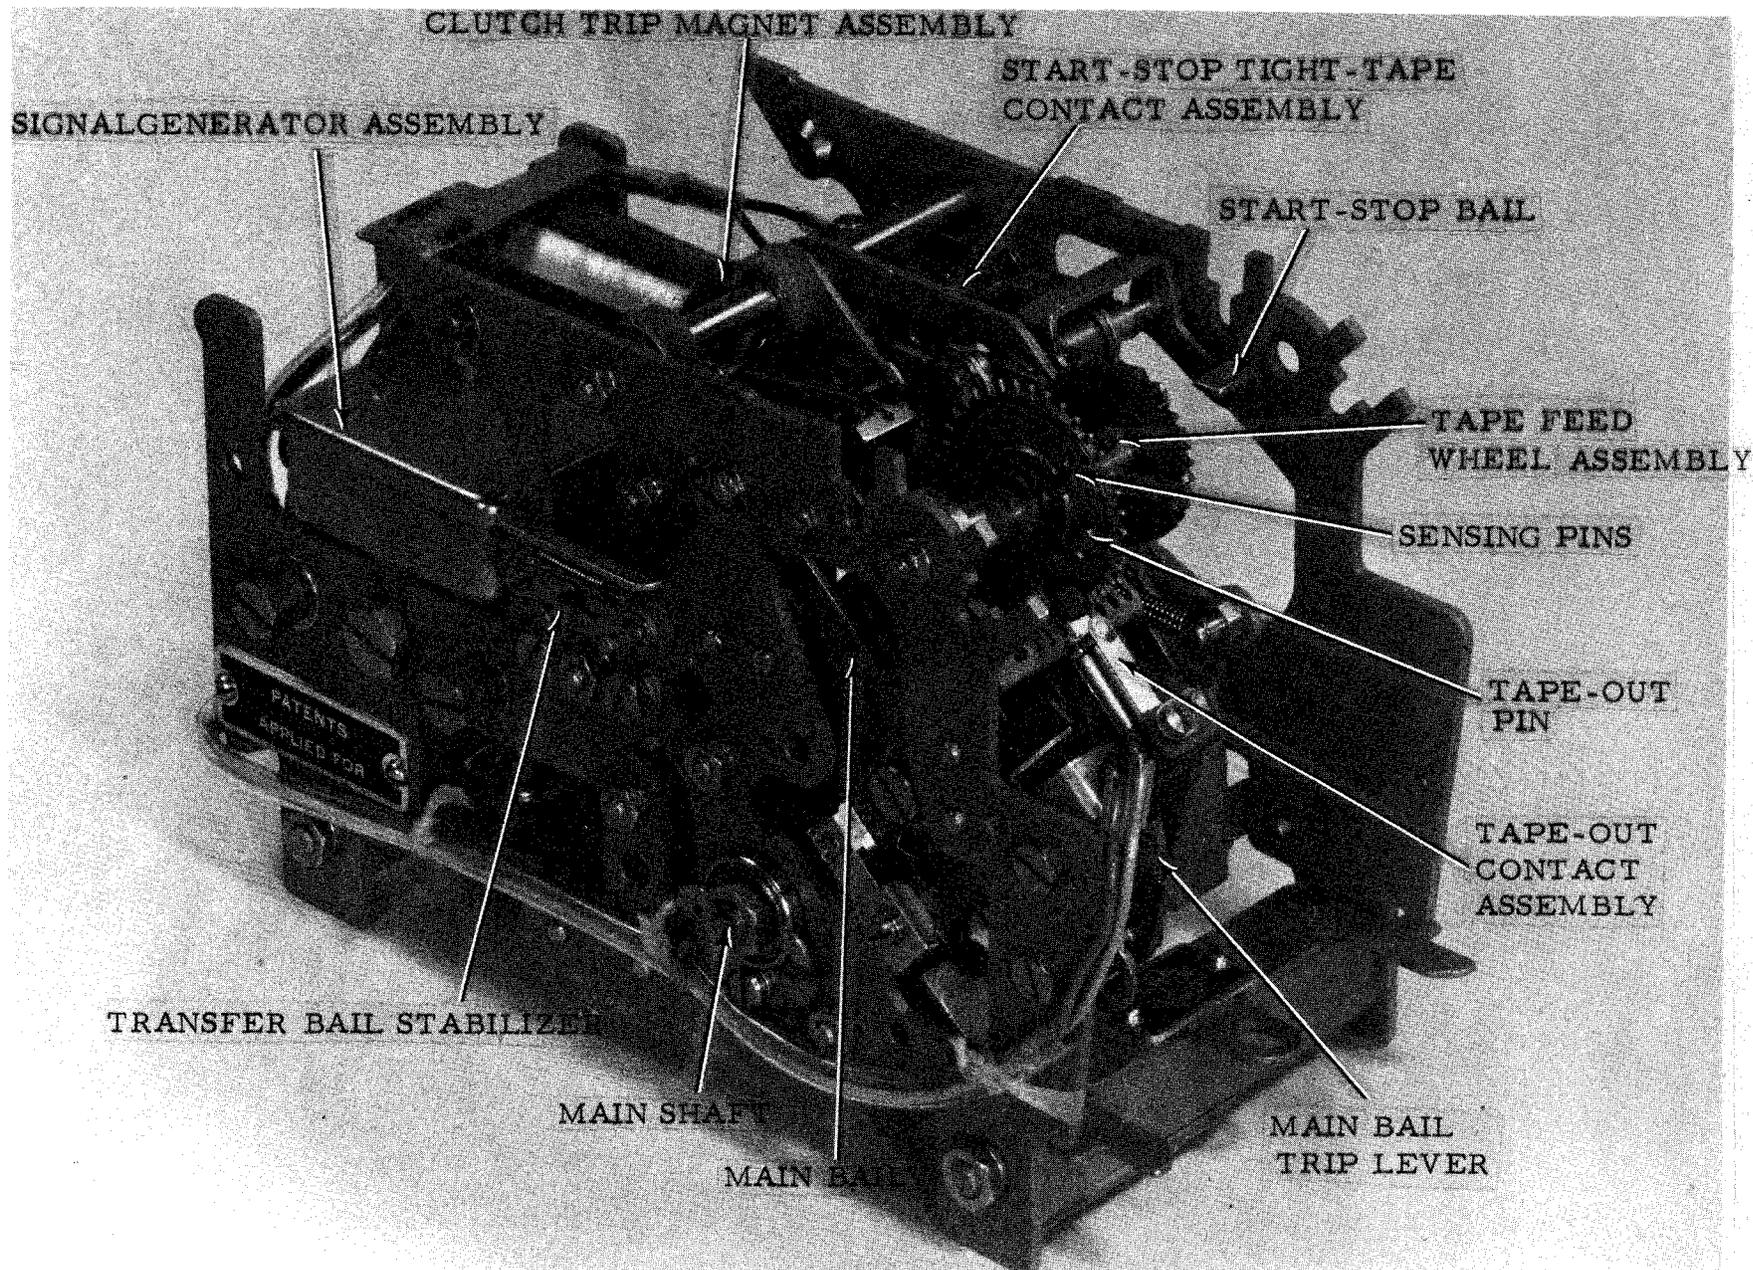
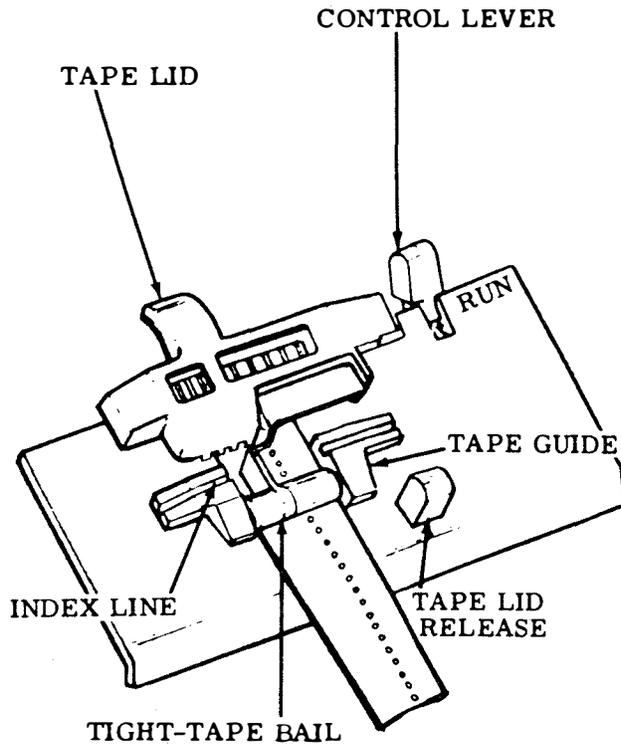
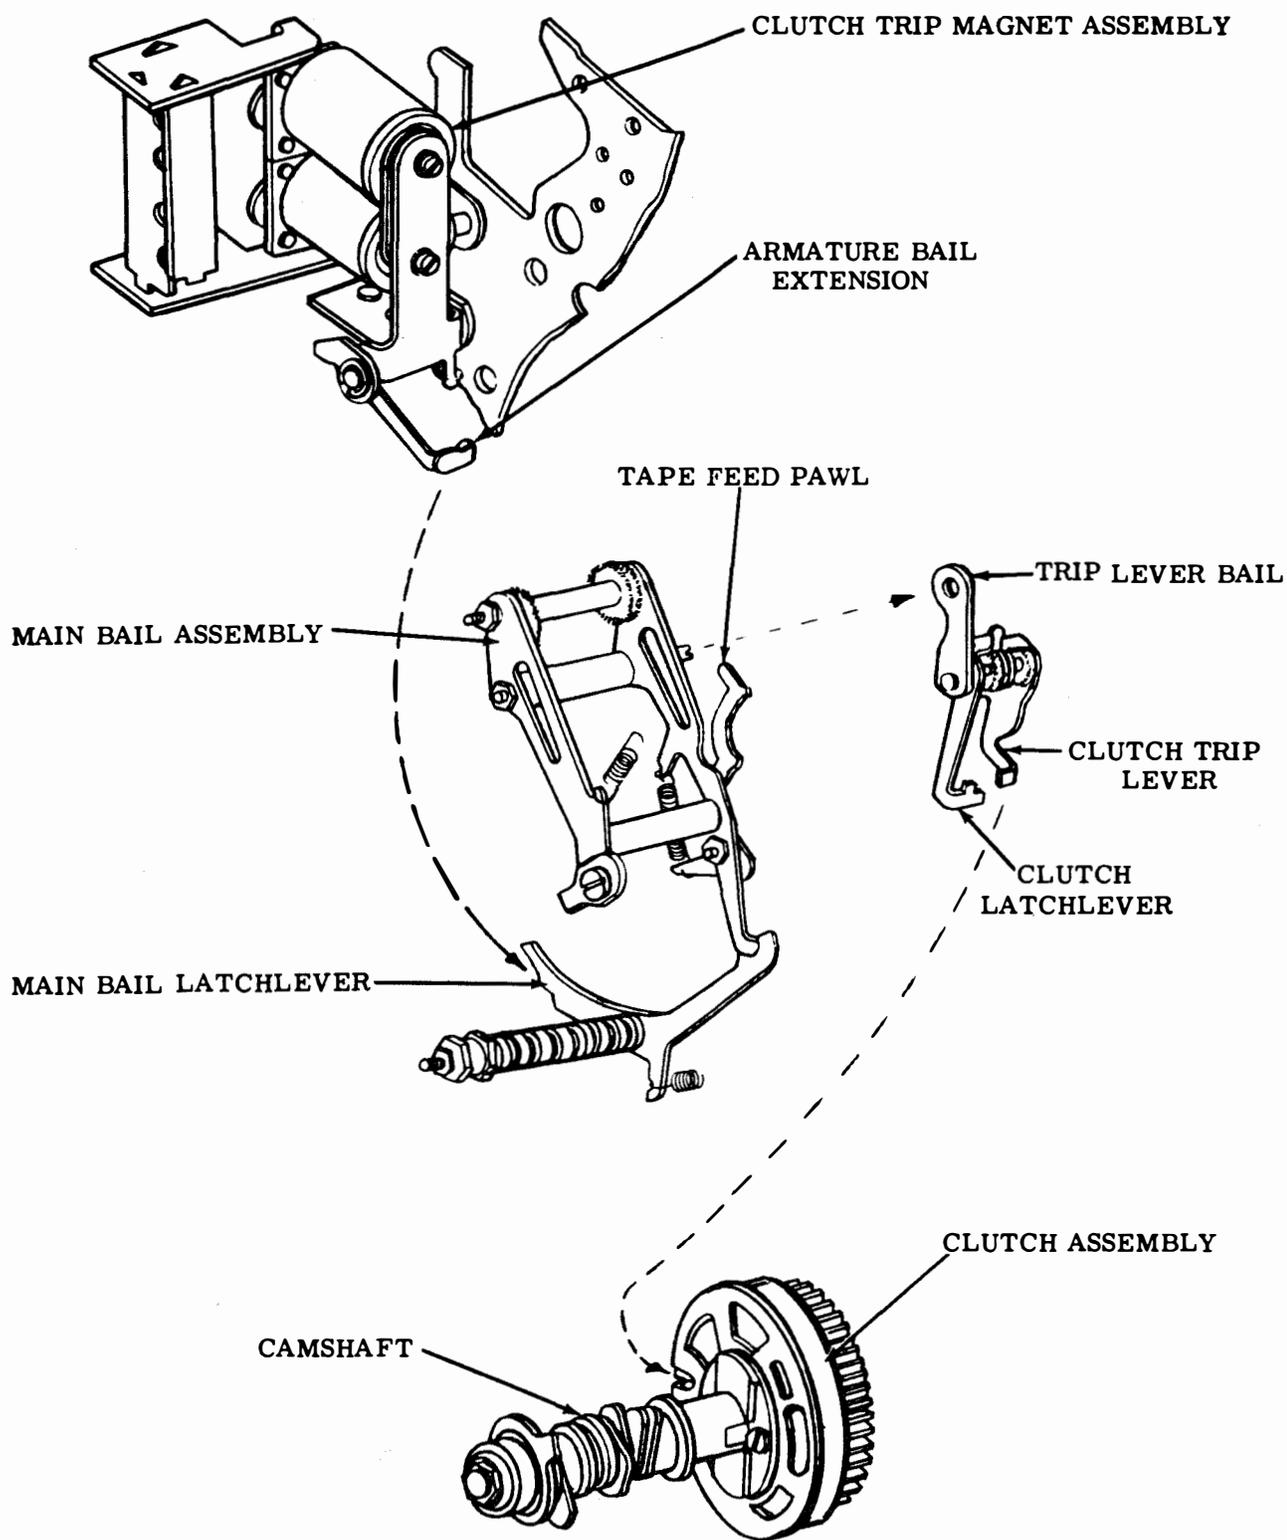

Figure 3-4. Transmitter Distributor Unit (Cover Plate, Top Plate and Tape Guideplate Removed)
Figure 3-6. Tape Guideplate
Figure 3-9. Function Control Mechanism
c. Functions. The basic operation of the TD is to mechanically sense perforated tape and transfer the information to the signal generator, which performs the actual signal transmission (figure 3-4).
(1) The TD can be thought of as having two basic functions. The transmitter (tape reader) senses or reads the punched code combinations in the tape and transfers this data mechanically to the distributor. The distributor (signal generator) converts the parallel signal from the transmitter into sequential, start-stop signals for distribution on line.
(2) The signal generator assembly includes a
(a) The tape sensing mechanism which consists of a bank of sensing pins, each with its corresponding transfer lever and latchlever (figures 3-4 and 3-5).
(b) The main shaft assembly, (figures 3-4 and 3-5) which is centrally located in the lower portion of the unit, has the outer race of each ball bearing clamped to the respective front and rear plates. The main shaft assembly consists of multiple cams,
(d) A tape-out pin (figure 3-4), located to the right of the sensing pins, stops transmission if there is no tape in the sensing head (figure 3-6).
(b) A pair of adjustable guides (figure 3-6) for aligning and locating 11/16- or 7/8-inch wide tape over the feedwheel. An index line is scored in the tape guides 0.600 inch (6 characters) ahead
(d) A spring-loaded tape lid (figure 3-6) that snaps open when the red tape lid release plunger is depressed.
unit, and the external portions of the transmitter distributor circuits complete. Moving the control lever (figures 3-6 and 3-8) to the RUN position, energizes the clutch trip magnet by completing the circuit through the start-stop and tight-tape contact assembly. Thus, the contact closes to complete the clutch trip magnet circuit, energizes the magnet, and pulls the armature up. The armature bail extension (figure 3-9) cams the main bail latchlever about its pivot post to release the main bail.
(1) The clutch trip bail is reset by an eccentric on the main bail. The eccentric rides in the slot of the clutch trip bail. When the eccentric on the spring biases main bail cams the clutch trip bail, the trip bail, in turn, moves the clutch trip lever (figure 3-9) away from its latch. When the main bail is released, the clutch trip bail is also released by the interconnection. The main bail swings up drawn by the main bail spring and causes two actions to occur.
(4) During the movement of the main bail, the clutch trip bail pivots on its axis and pushes the clutch trip lever away from the shoe release lever to engage the clutch and start the camshaft rotating (figure 3-9).
(5) As the camshaft continues its rotation, the high part of the locking bail cam moves away from the locking bail and permits the locking bail to be pulled up by its spring. In its upward travel, the locking blade of the bail is positioned
(1) Since the tape out contacts are in series with the start-stop and tight-tape contacts, the clutch trip magnet becomes de-energized and releases its armature. This action permits the armature extension to pivot out of its blocking position and allows the main bail latchlever to be moved by its spring (figure 3-9).
(2) As the main bail is latched, the clutch trip lever blocks the clutch shoe lever. When the clutch shoe lever is blocked the inertia of the mechanism causes the clutch to rotate far enough to permit the clutch latch to fall into the notch on the clutch cam disc.
its mechanism is mounted on a bracket attached to the front plate. The result of this camming action is the depressing of the tape-out sensing pin to a flush or below flush position relative to the tape guideplate. The position of the tape-out sensing pin allows free passage of the tape under the tape lid (figure 3-6).
(1) Tight or Tangled Tape. A tight or tangled tape raises the tight-tape bail arm (figures 3-6 and 3-8). The bail pivots and its extension cams the tight-tape intermediate arm assembly to which the tight tape arm is attached. When the arm assembly is cammed, the associated tight-tape arm lifts the swinger on the start-stop, tight-tape contact assembly up, opening the clutch trip magnet circuit, causing transmission to stop.